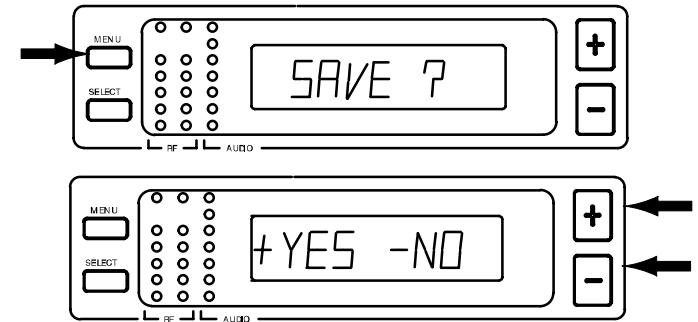

FIGURE 28
- Once you have reached the desired squelch level, press the MENU button. SAVE? will appear, followed by + YES – NO, as shown in Figure 28. Press the – button to make more changes, or press + to save the new squelch setting and return to the Group/Channel/TV display.